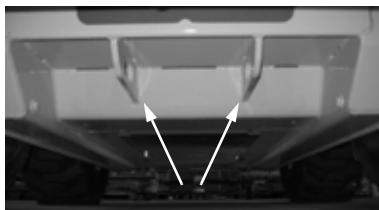
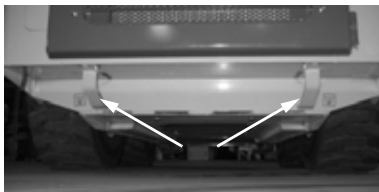

Figure 24 Front Tie-Down/Front Retrieval
Figure 25 Rear Tie-Down/Rear Retrieval
5. Fasten the loader to the hauling vehicle at the points indicated by the tie-down decals (Figure 24 and Figure 25).